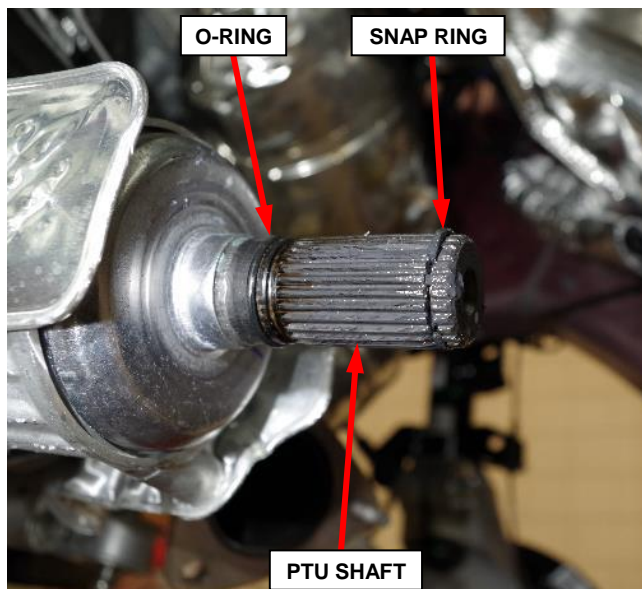

Figure 33 – PTU Shaft Snap Ring
- f. Replace the PTU output shaft snap ring with a **NEW** snap ring before the propeller shaft is reinstalled (Figure 33).